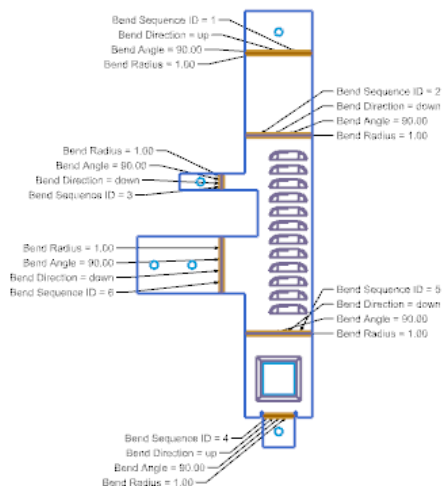

Figure 14-125 Flat pattern of the sheet metal part
5. Select **FLAT-PATTERN#1** from the list box available in the **Replace View with** dialog box and then choose the **OK** button; the flat pattern is displayed, as shown in Figure 14-125.